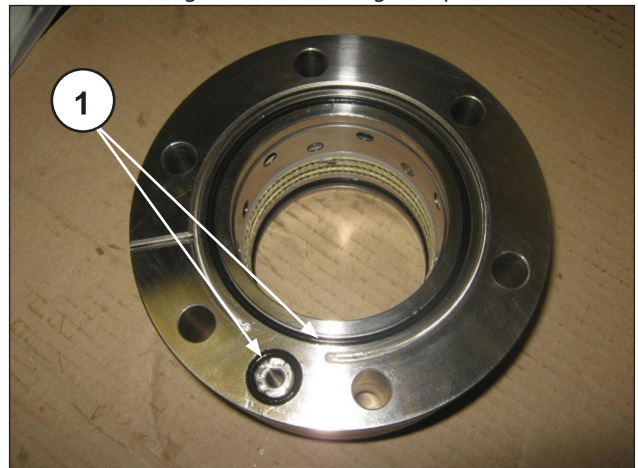

Fig. 256
Position the O-rings on the sleeve (Fig. 256, pos. ①):